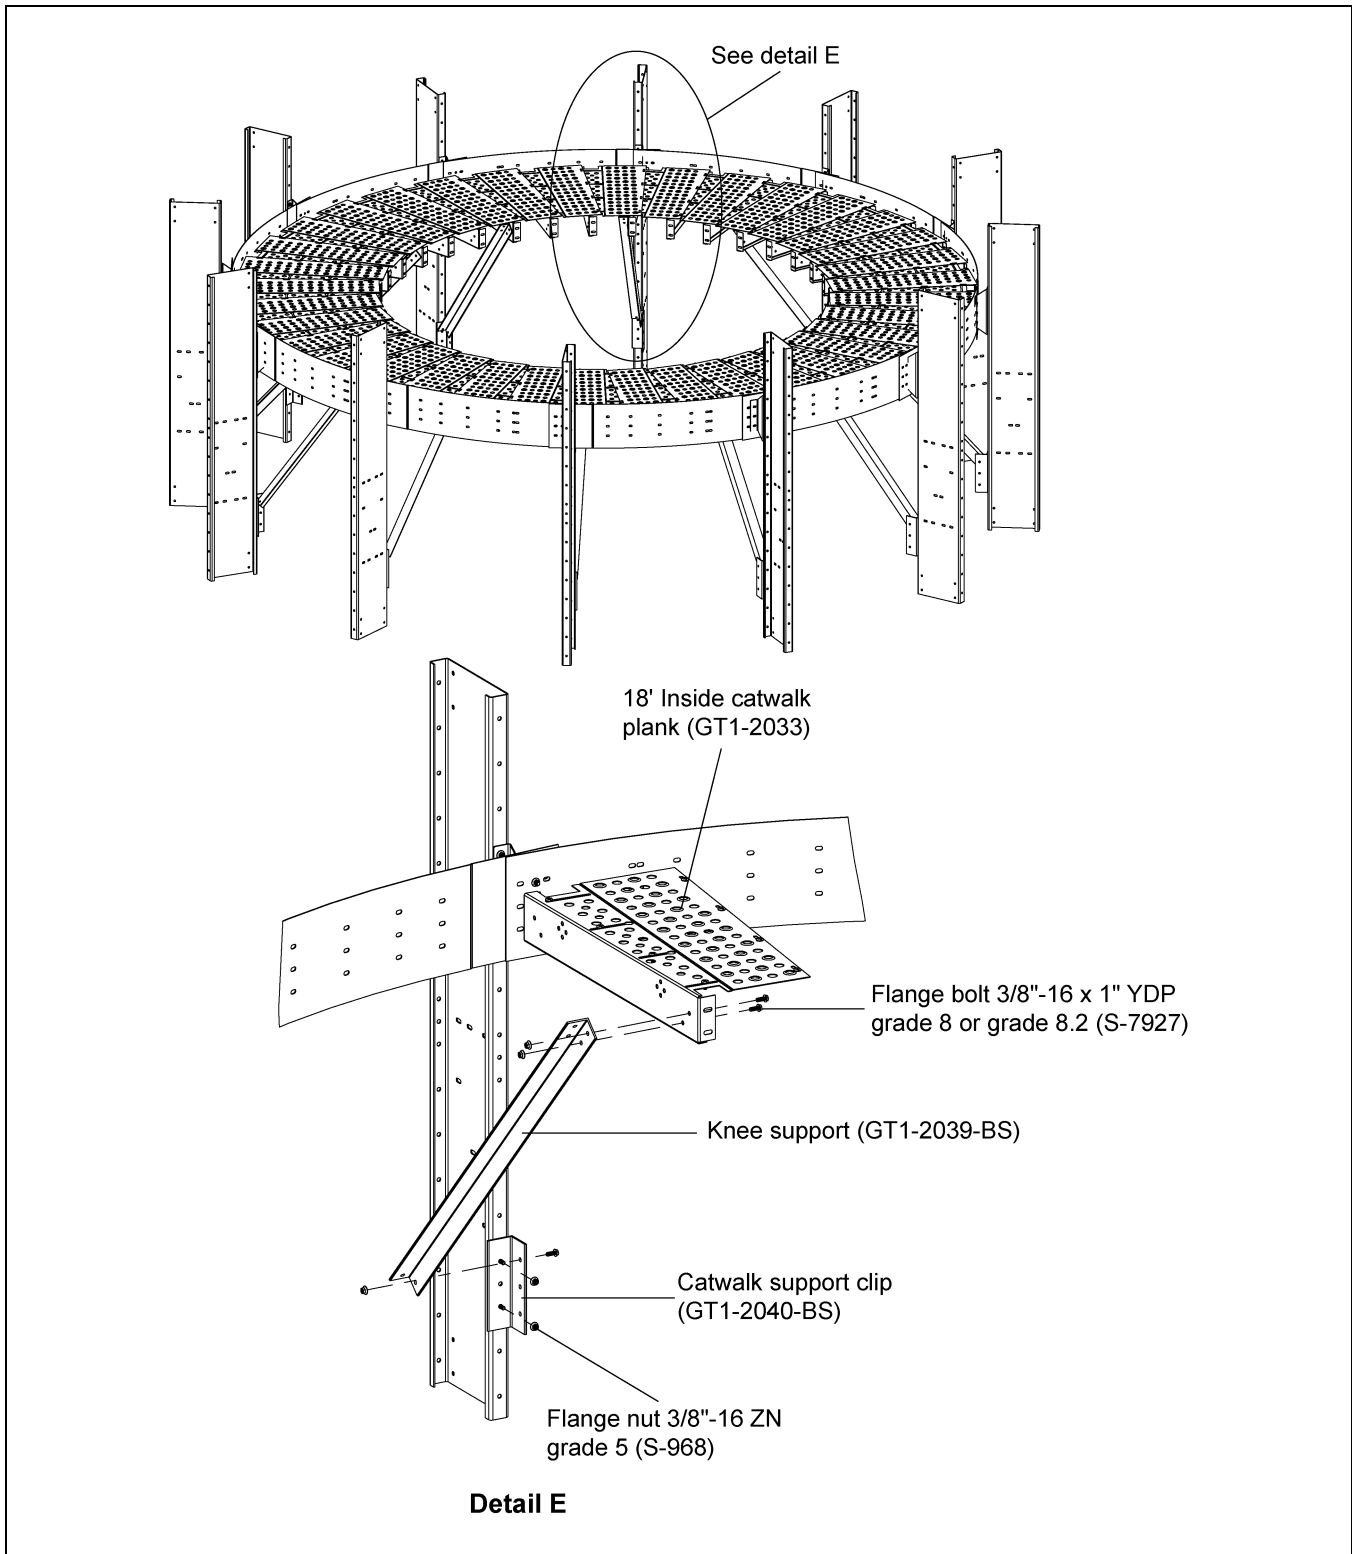

Figure 5I
1. Install the knee support (GT1-2039-BS) around the dryer between the catwalk support clips (GT1-2040-BS) and planks (GT1-2033) using 3/8"-16 x 1" YDP grade 8 or grade 8.2 bolts (S-7927) and 3/8"-16 ZN grade 5 nuts (S-968). (See Figure 5I.)